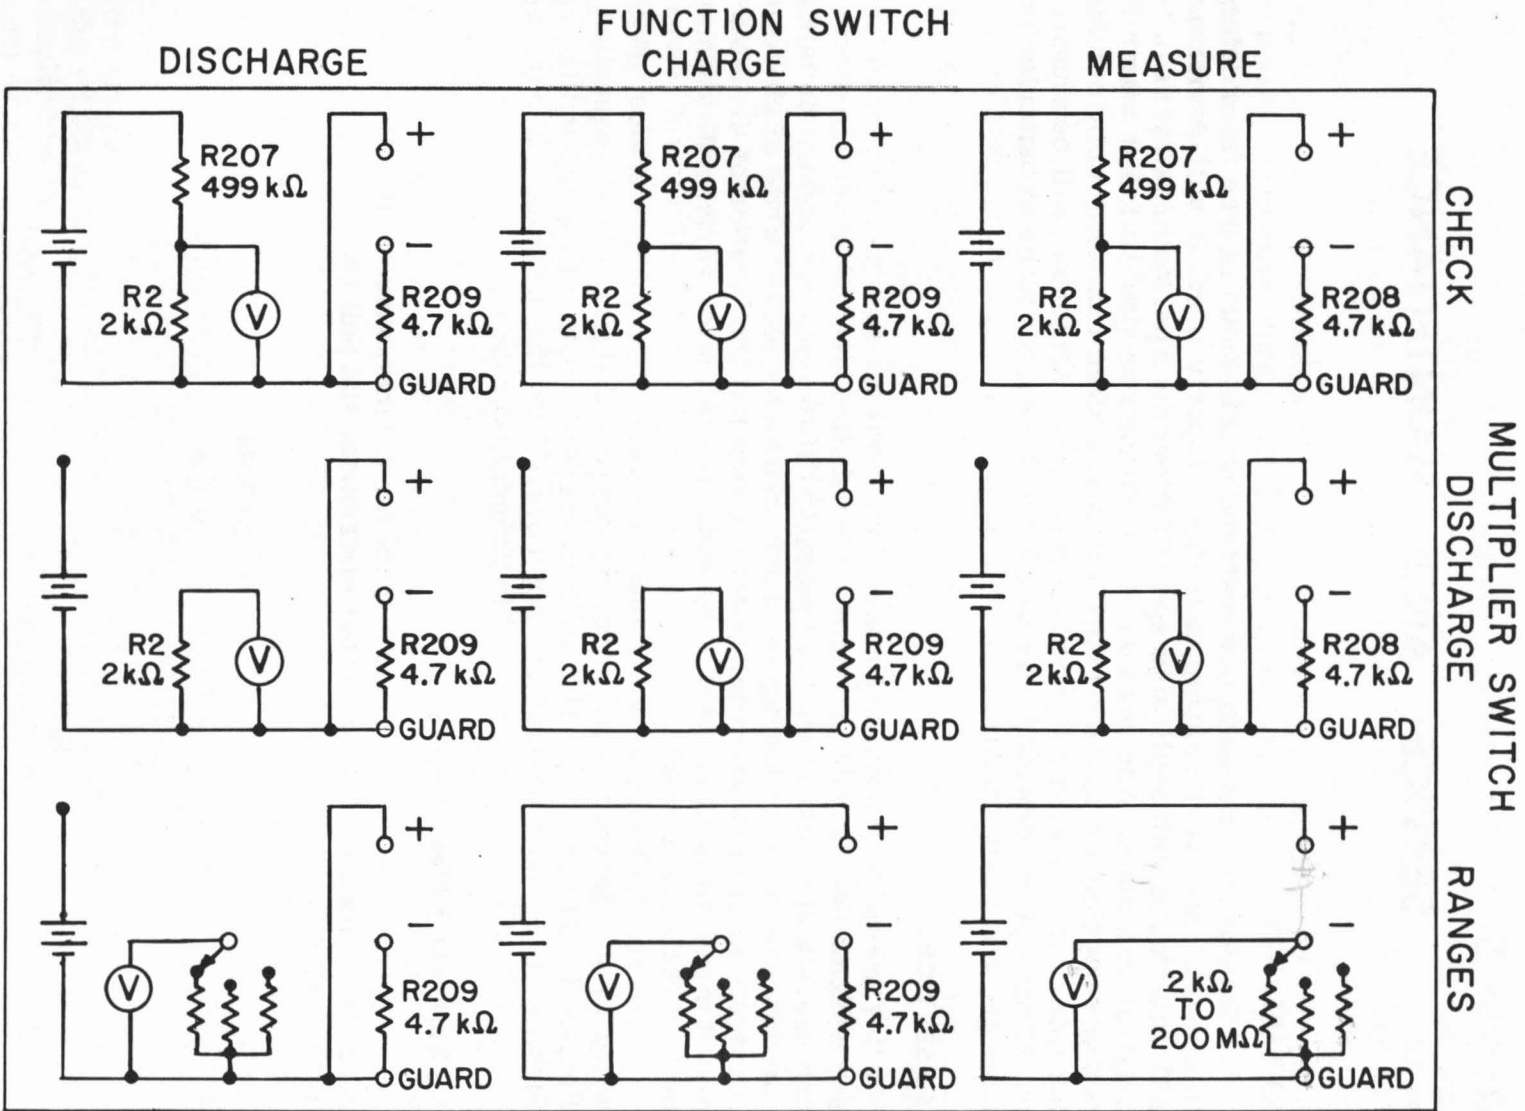

Figure 4-2. Circuit diagram of the Megohmmeter for each position of the MULTIPLIER and Function switches.
3.2.2 CHARGING TIME. The charging time for a capacitor is determined by the maximum current then may be drawn from the power supply (approximately 10 ma at 500 volts and 2 ma at 100 volts) and by the resistance in series with the capacitor. With the function switch set at CHARGE, the series resistance is 4.7 kilohms and is independent of the MULTIPLIER switch setting (see Figure 4-2). With the function switch set at MEASURE, the series resistance is equal to 2000 ohms multiplied by the red engraving of the MULTIPLIER switch indication. This becomes very large on the highest ranges. For measurement of high-valued, low-leakage capacitors, the MULTIPLIER switch should be left on the lowest range (search method) or the function switch should be left at CHARGE (sort method) until the capacitor is charged. A couple of seconds per hundred microfarads is sufficient time for units with low dielectric absorption.
The MULTIPLIER switch selects the standard resistor,  $R_S$ , used for the measurement and provides DISCHARGE and CHECK positions. (See Figure 4-2.) In the CHECK position a precision resistor is substituted for the unknown so that the gain control (CHECK adjustment) may be set. The separate function switch facilitates rapid repetitive measurements. The component is discharged by 4.7 k $\Omega$  if either the function switch or the MULTIPLIER switch is set to DISCHARGE. Voltage is applied only when the function switch is set to MEASURE and the MULTIPLIER switch is set to a multiplier position (see Figure 4-2). The neon lamp adjacent to the GUARD terminal lights when voltage appears across the UNKNOWN terminals. The lamp is dim when 100 volts is applied and quite bright when the more dangerous 500 volts is applied.